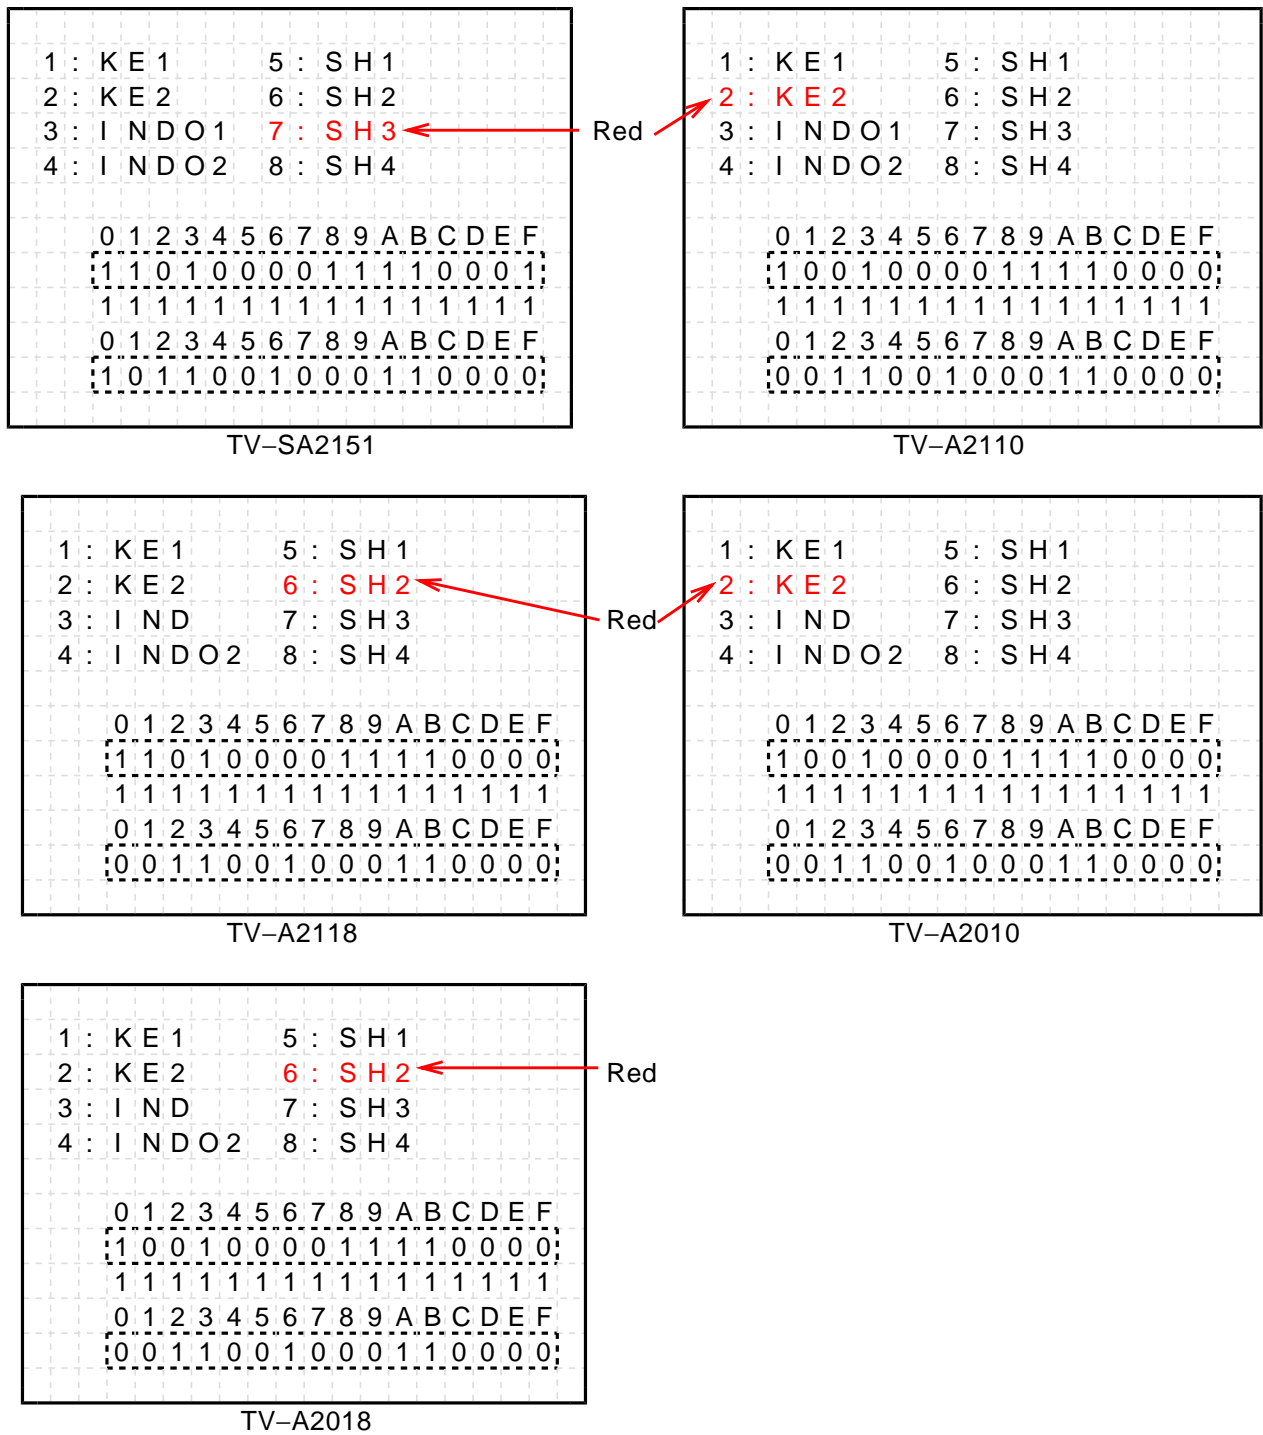

Fig.3 Distinction switch set up data for each model
4. Check to see if the data of address 0-1F match the Fig3 (next page) or not.